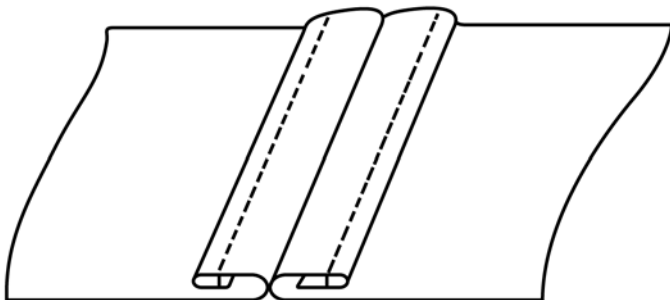

FIG. 2 Clean-Finish Seam Finish from Back Side of Fabric
**clean-finish seam finish**, *n*—in home sewing, a seam finish in which the cut edge is folded under and the fold line is edge stitched. (See Fig. 2.) (Syn. **turned and stitched seam finish**.)